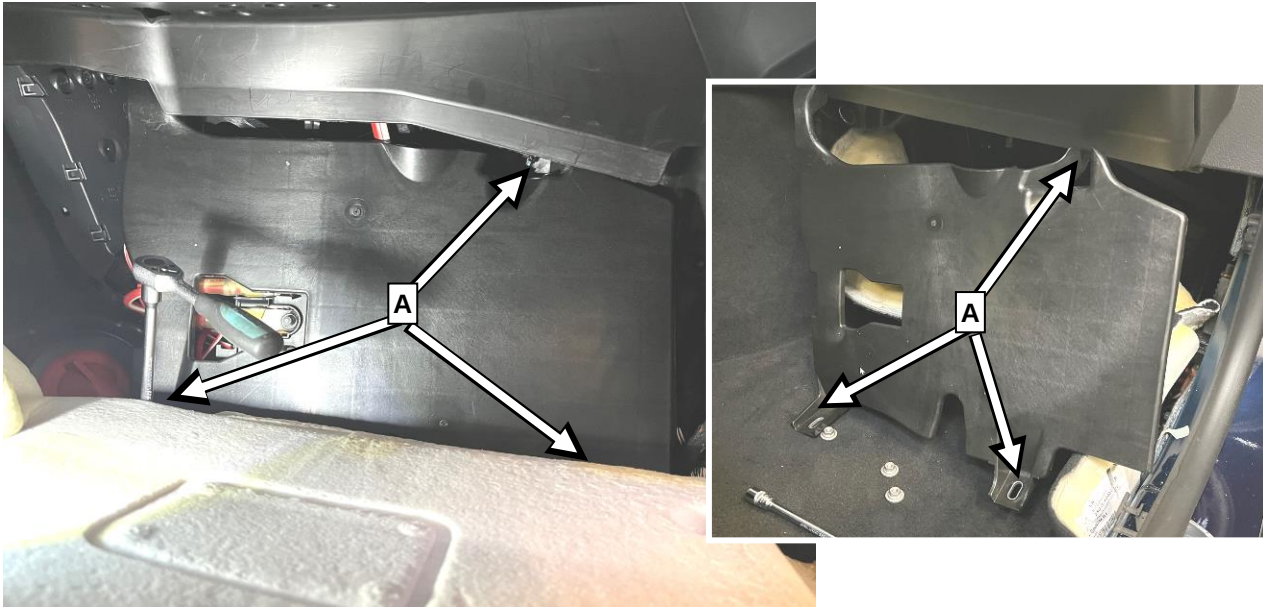

Figure 3, Interior prefuse box cover, shown on model 206
3. Unscrew nuts (**Figures 3, A**) of interior prefuse box cover and remove the cover.